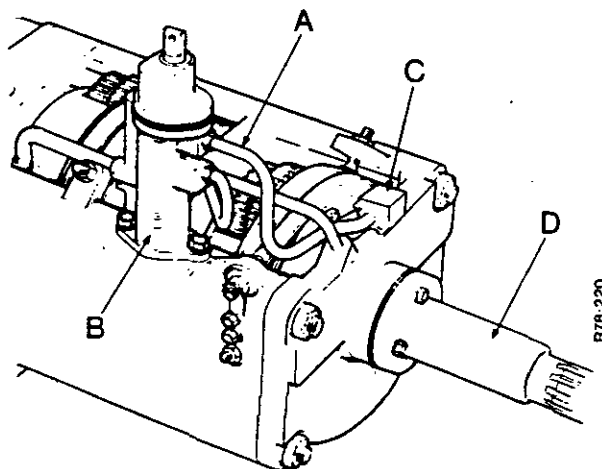

FIGURE 33 FOUR SPEED SECTION
2. Remove the oil pipes and the control valve. See figure 33.